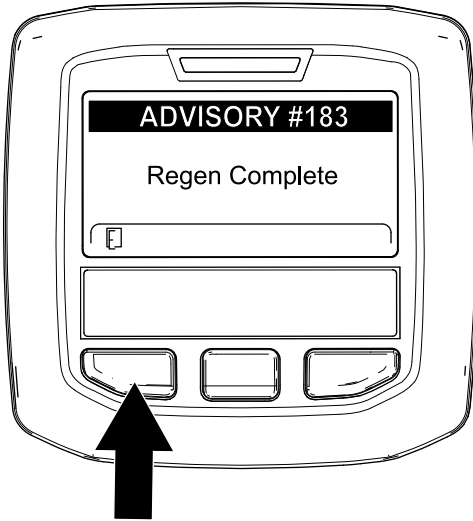

Figure 61
9. When the engine computer completes a parked or recovery regeneration, the InfoCenter displays ADVISORY #183 (Figure 61). Press the left button to exit to the home screen.